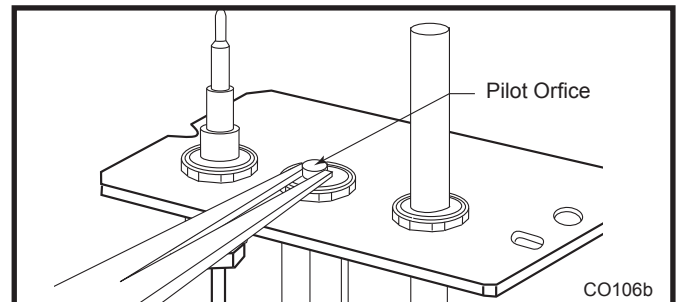

Fig. 60 Remove pilot orifice.
8. Remove injector orifices from left burner leg using 1/2" wrench. (Fig. 60)
- Remove pilot orifice with needlenose pliers. (Fig. 60) **NOTE:** Use a wrench to hold pilot tube in place while removing the orifice.